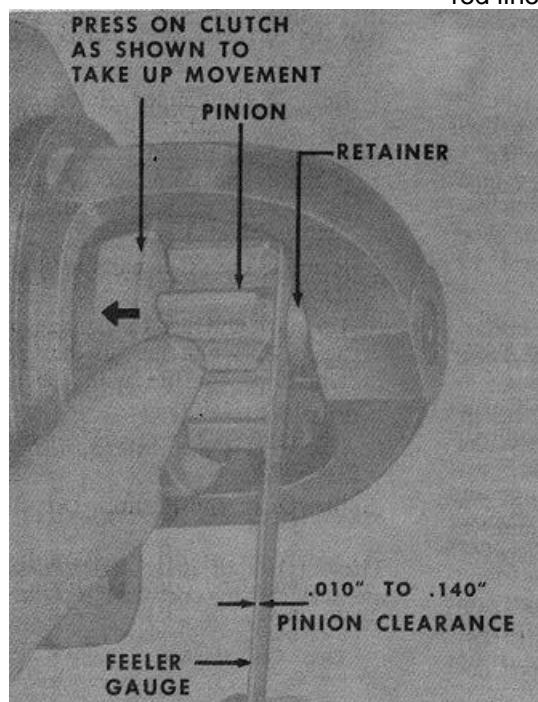

Figure 25-Checking pinion clearance on intermediate duty clutch motor.
4. Measure the distance between drive and drive stop (Figs. 25, 26, and 27).